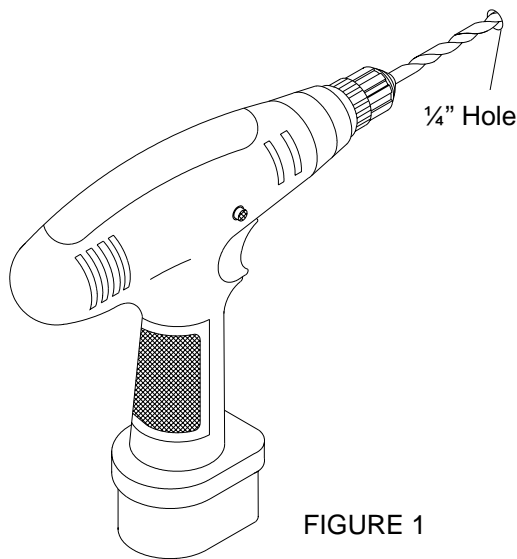

FIGURE 1
12. Drill 1/4" holes into the wall on the marked locations where the wall anchors are to be installed. (FIGURE 1)